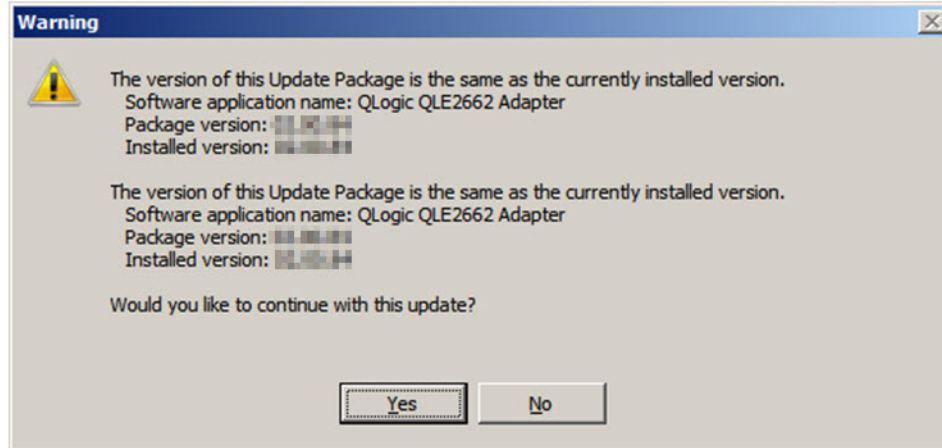

Figure 3-2. Continue Dell Update Package Installation
3. Follow the installer instructions. If a warning message appears (Figure 3-2), click **Yes** to continue the installation.